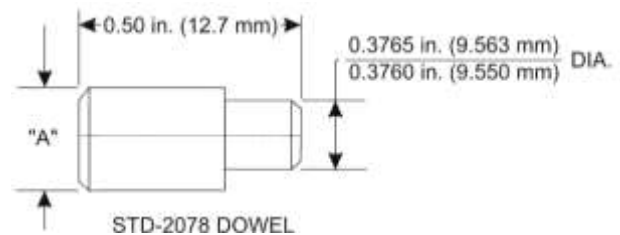

Figure 30
- (5) Measure the diameter of the alignment dowel (Dimension A) shown in Figure 30 and determine if the measurement conforms to the values for the different alignment dowel part numbers in the latest revision of Service Bulletin No. SB-475.
- (6) If the alignment dowel is out of tolerance or out of round, replace the dowel with a new one per the "Alignment Dowel Replacement" procedure in this chapter.